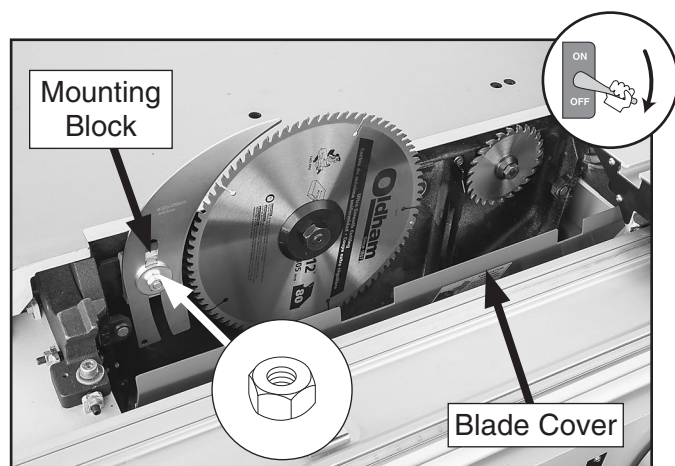

Figure 165. Blade cover open.
4. Open blade cover to gain access to riving knife mounting block (see **Figure 165**).
5. Loosen hex nut securing riving knife to mounting block, then remove riving knife or splitter/riving knife (see **Figure 165**).